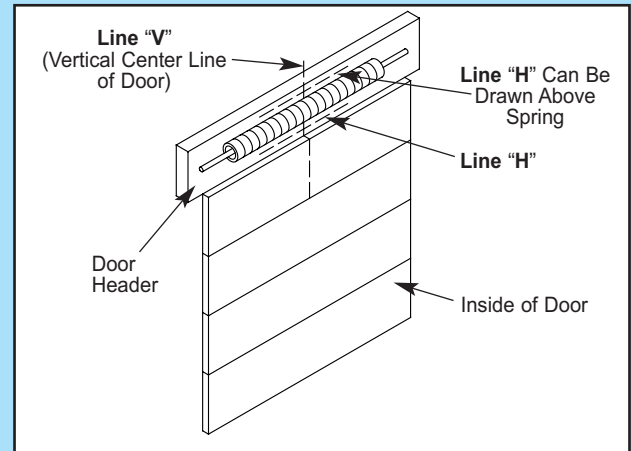

Fig. 2-1
1. Establish center line of door and header (Fig. 2-1).
- Draw horizontal line "H" across line "V" at this point (Fig 2-1).